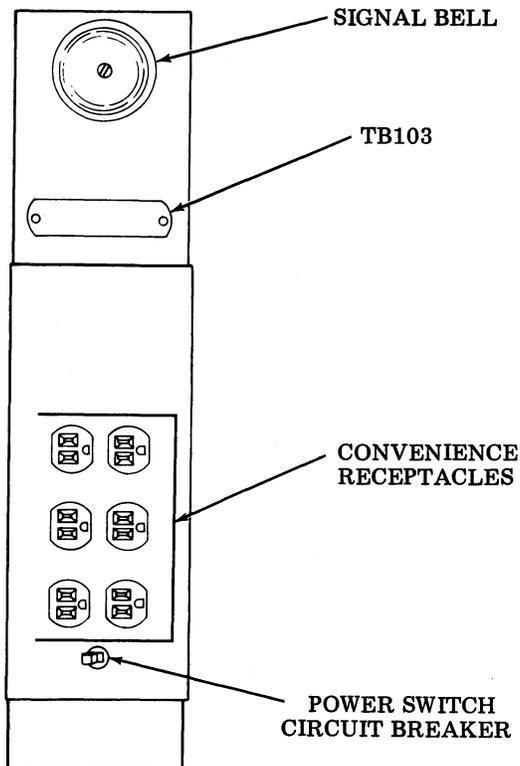
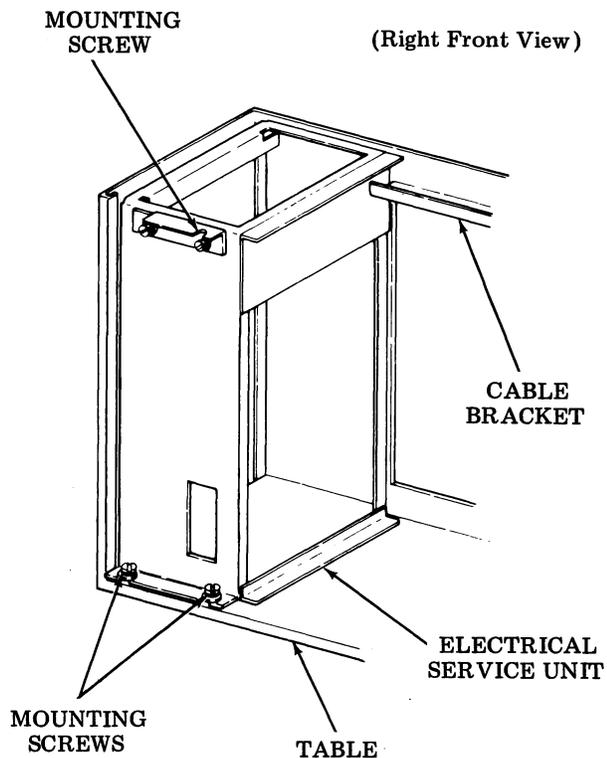

Figure 17 - 37 Utility Strip
Figure 18 - ESU Mounted in Table
4.25 The utility strip (Figure 17), if used, and the electrical service unit (ESU) are exposed when the front panel on the table is removed (2.04). To gain easier access to the circuit cards and answer-back unit (optional), the electrical service unit may be removed from the table. To remove the ESU, refer to Figure 18 and proceed as follows.
4.28 Code the answer-back drum as outlined in the following paragraphs. Use the ASCII (American National Standard Code for Information Interchange) code shown in Figure 20. Replace the electrical service unit, install the three mounting screws on the front plate, and route the cables over the bracket on the back panel (Figure 18). Route the power supply cable from the utility strip (Figure 17) through the oblong opening in the base of the table. **DO NOT CONNECT THE POWER CABLE AT THIS TIME.** If equipped with a utility strip, check to insure that the power cable from the electrical service unit is connected to an outlet on the utility strip.